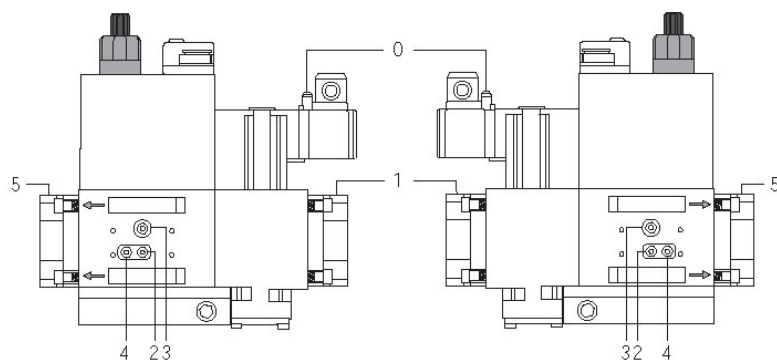
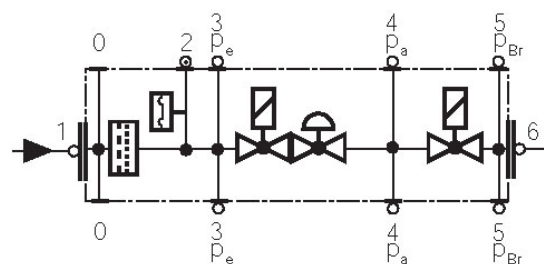

Fig. 1
Fig. 2
- Change the filter if the pressure difference between pressure connection 1 and 2 (Fig. 1-Fig. 2)  $\Delta p > 10$  mbar.
- Change the filter if the pressure difference between pressure connection 1 and 2 (Fig. 1-Fig. 2) is twice as high compared to the last check.